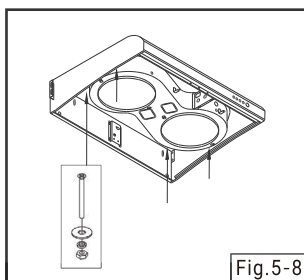

Fig.5-8
3. Remove the bottom plate from range hood. Align the keyholes, which are located at the top of range hood, to the flat cap screws at the bottom plate of cabinet. Insert the flat cap screws through the keyholes. (Fig. 5-8)
4. Fasten the provided flat washers, spring washers, and hex nuts in correct order to the flat head cap screws. (Fig. 5-8)